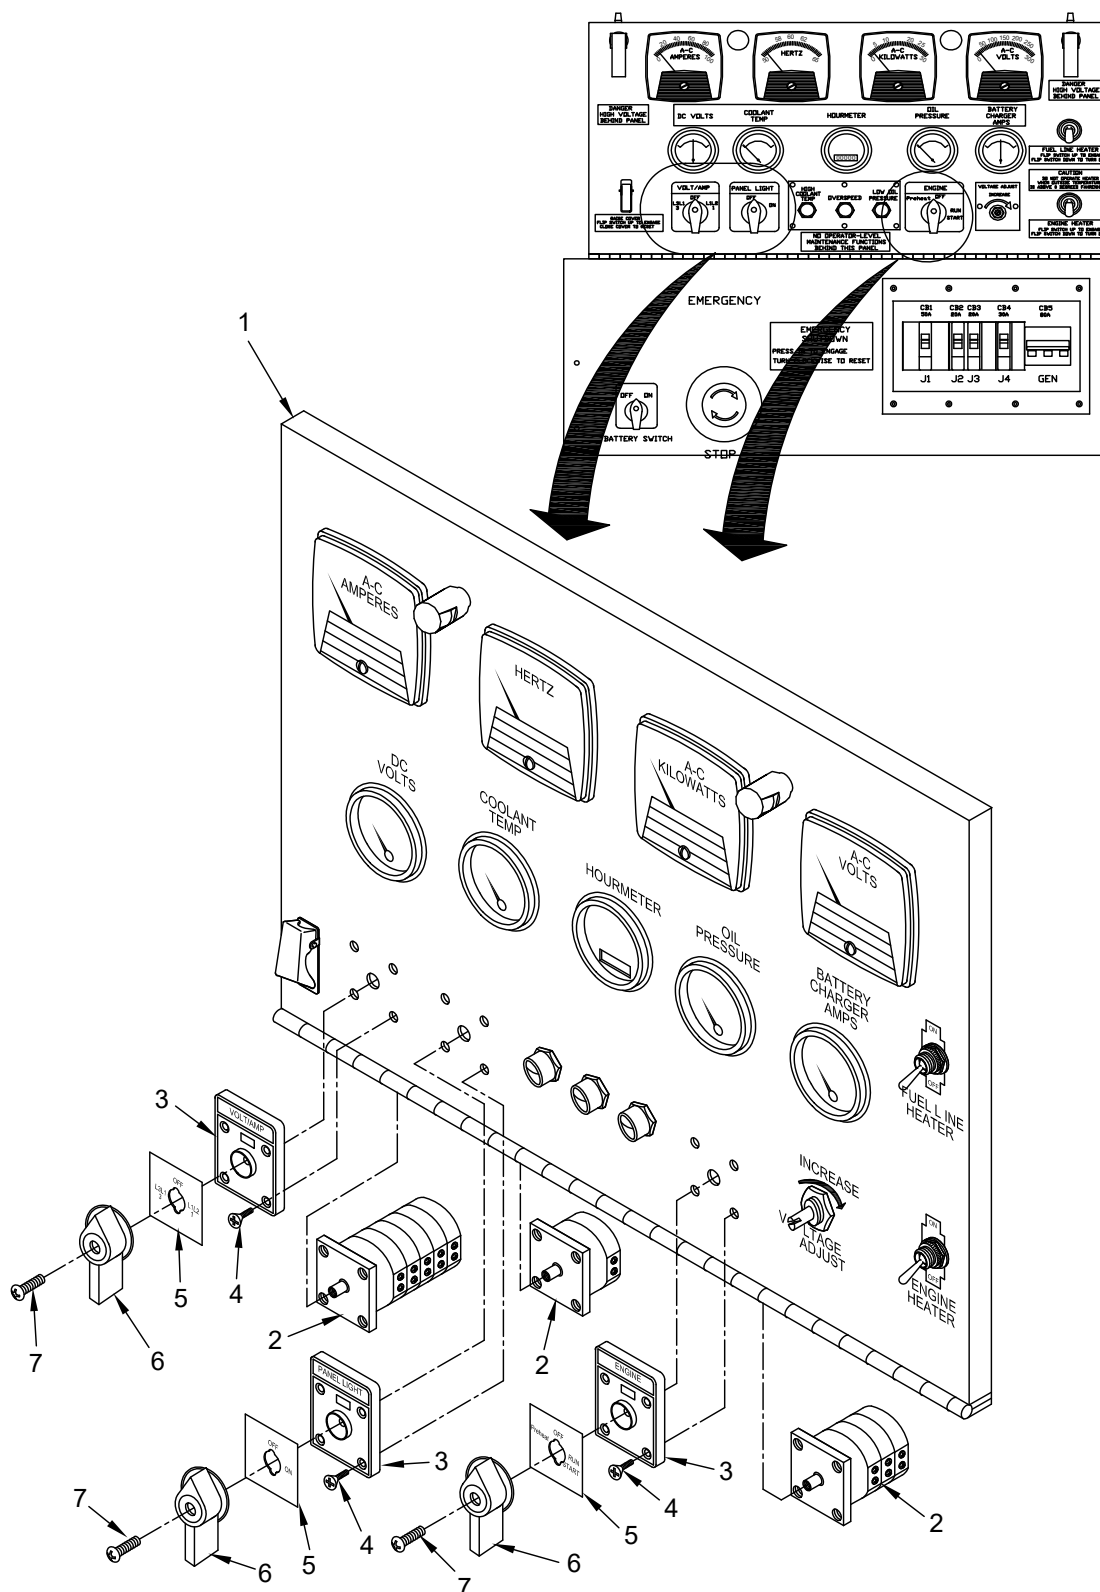

Figure 2. Rotary Switch Removal/Replacement.
1. Loosen but do not remove hardware securing terminal leads to rotary switch (Figure 2, Item 2). Install terminals from wiring harness to appropriate terminals on rotary switch (Figure 2, Item 2) and re-tighten hardware.
2. Insert rotary switch (Figure 2, Item 2) being observant of orientation and positioning through rear of control panel (Figure 2, Item 1).
3. Place mounting plate (Figure 2, Item 3) on front of control panel (Figure 2, Item 1) and loosely install four mounting screws (Figure 2, Item 4). Once hardware is aligned, tighten four mounting screws (Figure 2, Item 4)
4. Install silver cover (Figure 2, Item 5) onto mounting plate (Figure 2, Item 3).
5. Install knob (Figure 2, Item 6) onto rotary switch (Figure 2, Item 2) and secure with screw (Figure 2, Item 7).